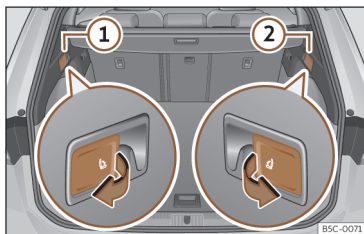

Fig. 105 In the luggage compartment: levers to unlock the rear backrest.
- Pull the remote release lever of the left >>> **Fig. 105** ① or right ② parts of the backrest in the direction of the arrow. The released part of the rear seat backrest is folded automatically down and forwards.